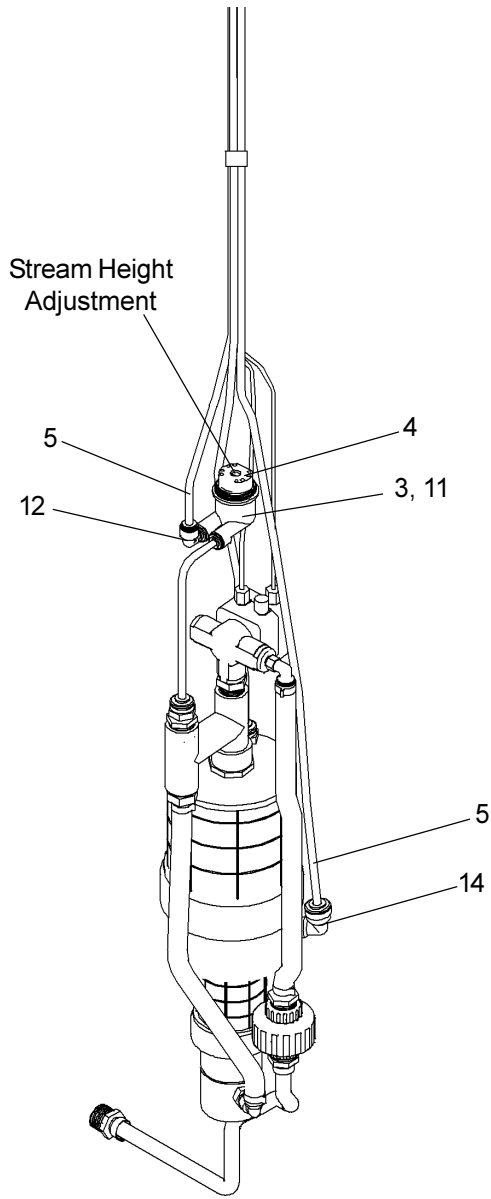

FIG. 4
- Remove the cleanout plug from the PVC column. Remove the valve assembly from the PVC column by carefully pulling up on the strap and connecting tubing at the same time. Pressure test the valve assembly for leaks. Check stream height from the bubbler. Stream height is factory set at 35 PSI. If supply pressure varies greatly from this, adjust the screw on the regulator (Item 11, Fig. 4, Page 10). Clockwise adjustment will raise stream and counter-clockwise adjustment will lower stream. For best adjustment stream height should be approx. 1-1/2" (38mm) above the bubbler guard. Replace the valve into the PVC column. Make sure the supply hose coils into the bottom of the PVC column without any kinks and double check that the valve is positioned fully at the bottom of the PVC column.